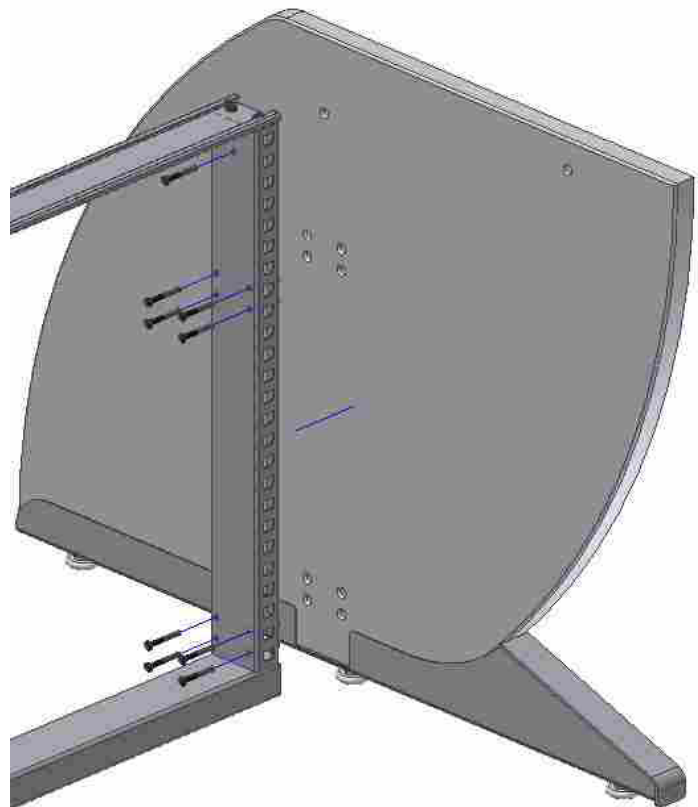

Fig 2
STEP 1 – Position the centre of the **console side** at the end of the **console frame** and then screw it in place with **9 M6x45 ISO7380 Allen screws** (Fig.2).